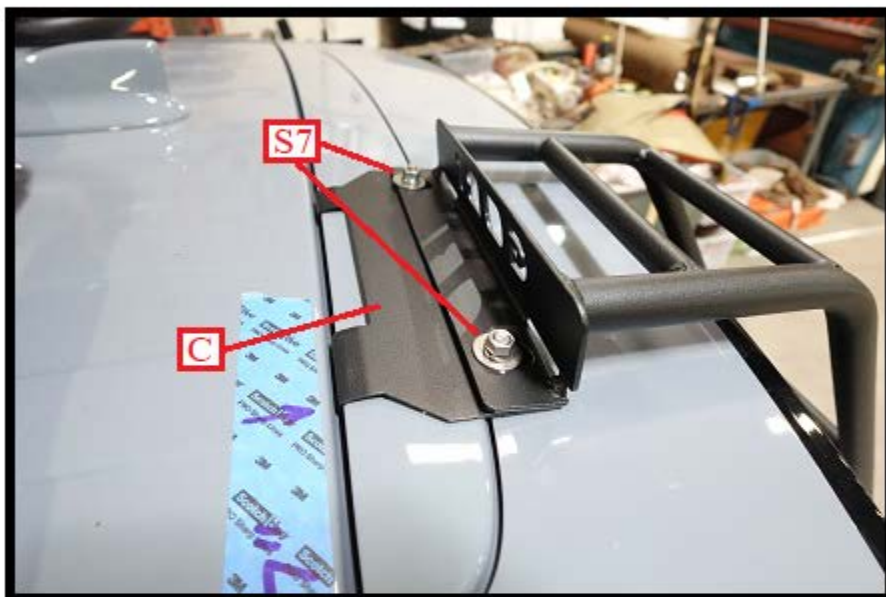

Fig. 29
As shown in Fig. 29, install both 5/16" flat washers, lock washers and nuts (S7) located in your hardware kit onto each hanger plate (C) threaded stud.